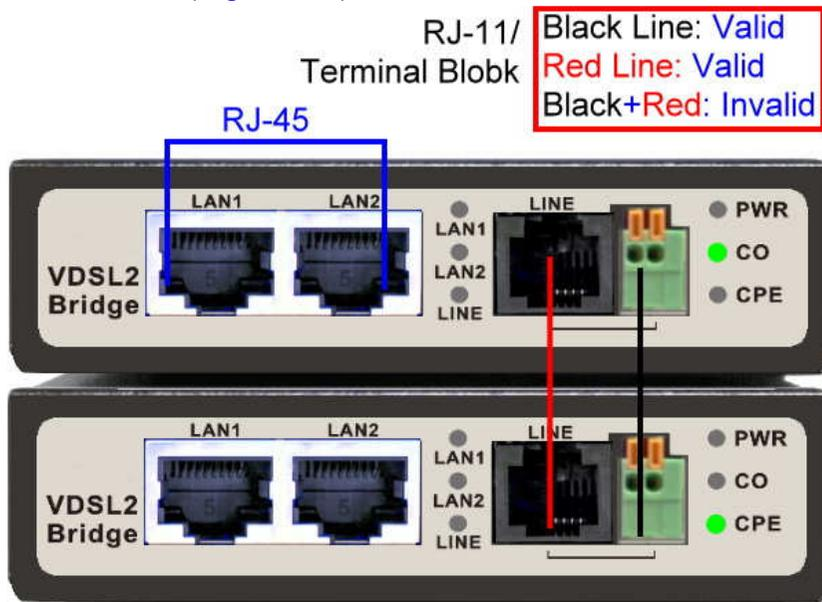
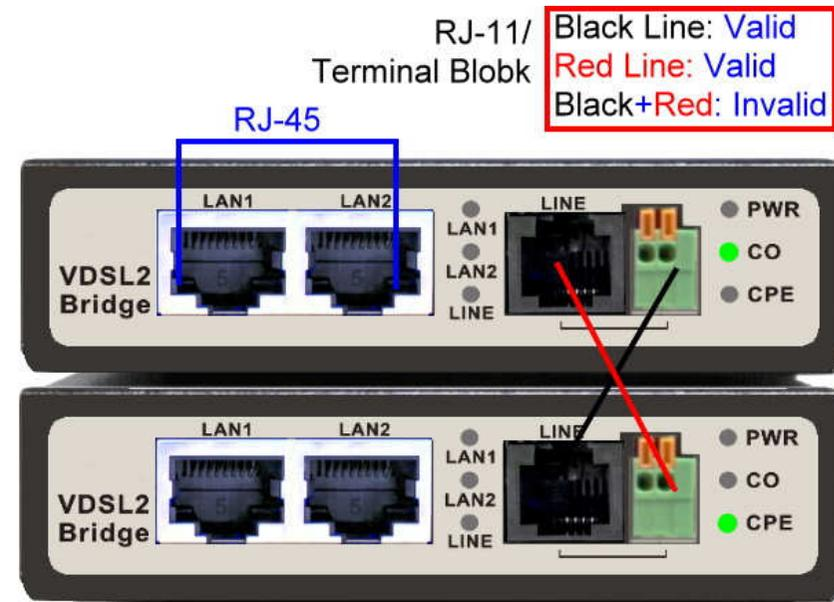

Figure 2.4 VDSL2 Bridge line ports straight connection
Figure 2.5 VDSL2 Bridge line ports crossover connection
- ◆ The line port has 2 connectors: RJ-45 and terminal block. It is used to connect from VDSL2 Bridge (CO) using single pair phone cable to VDSL2 Bridge (CPE) bridge side (point to point solution). Take note that VDSL2 Bridge line port cannot be used at the same time. Either RJ-11 port is connected or terminal block is connected using straight connection (Figure 2.4) or cross-over connection (Figure 2.5)